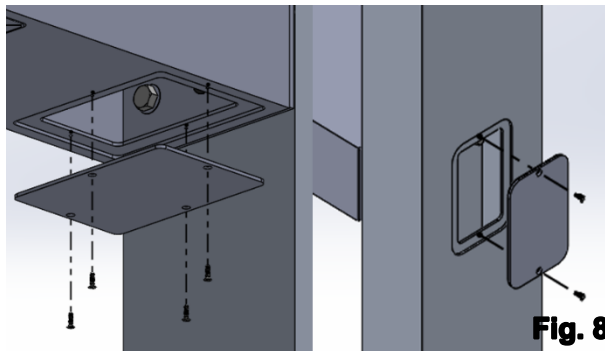

Fig. 8
- Finally place again the fixture cover and the hand hole cover. Tighten to 12 lbs-in. **Fig. 8**